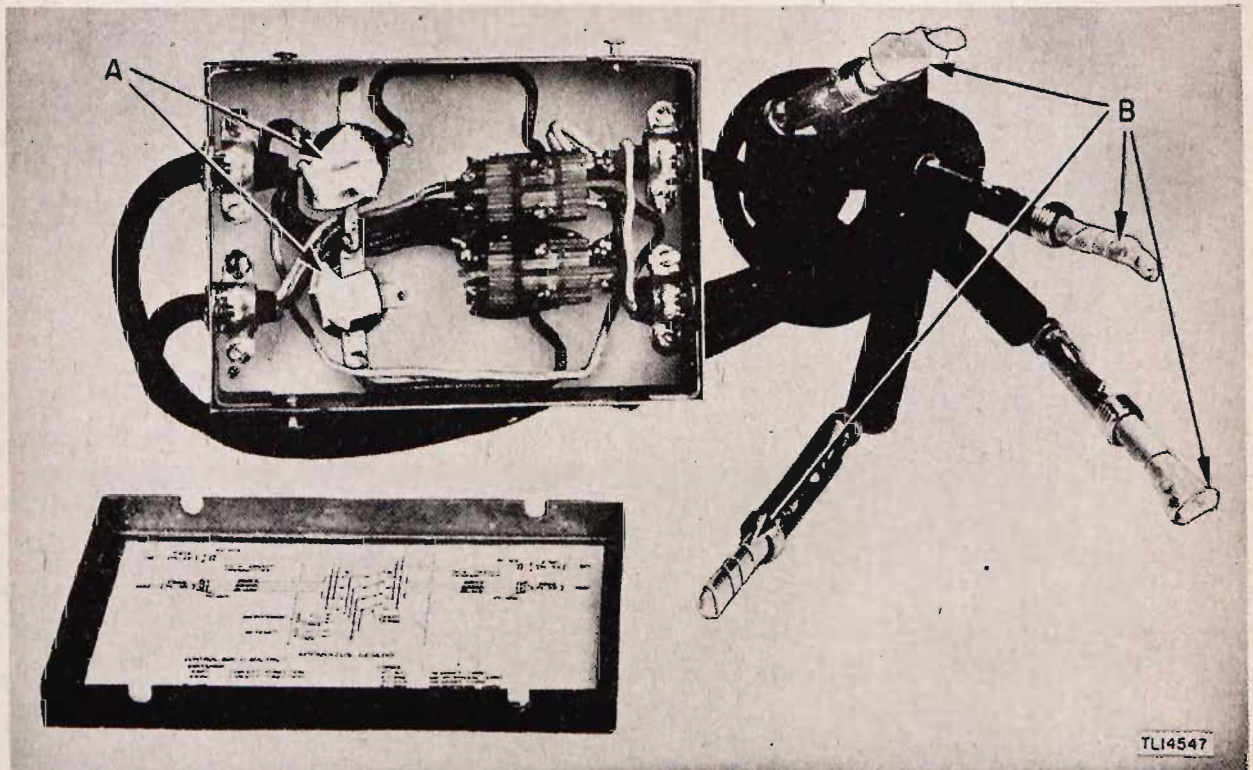

Figure 73. Control Box C-21A/TRC-1, masking details.
(1) Mask contacts of microphone headset jacks (item A, fig. 73).
(2) Mask sleeve and tips of Plugs PL-55 and PL-68 (item B, fig. 73).